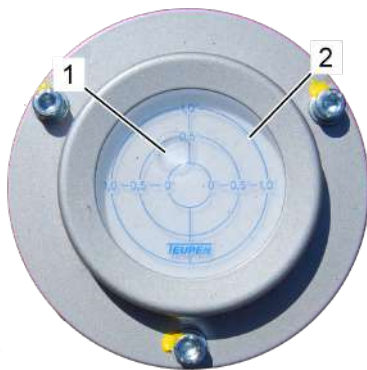

Fig. 90: Circular level
6. ➔ Check the orientation with the circular level (Fig. 90) (item no. 4001/0280). The bubble (Fig. 90/1) of the circular level must be within the 1° circle (Fig. 90/2).